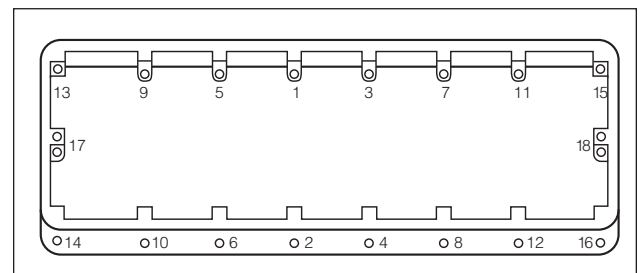

FIG. 10
4. Starting from the center and proceeding outward on both sides torque the capscrews to 15 lb.-ft. (20 N•m) following the sequences shown in Fig. 10.